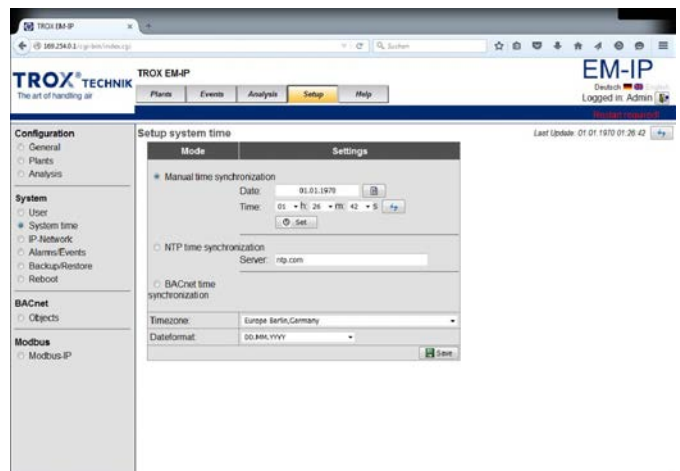

Fig. 28: Setting the system time
- ⇒ The 'Setup system time' (Fig. 28) page opens.
- ▶ Go to the 'Setup system time' (Fig. 28) page and select  'Set'.